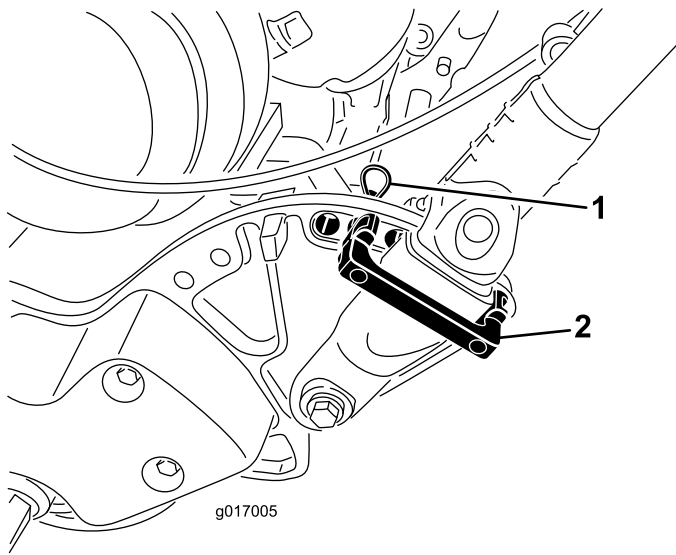

Figure 24
1. Remove the hairpin cotters from the handle retainers on each side of the mower (Figure 24).
2. While supporting the handle, remove the hairpin coppers from each side and pivot the handle to the desired operating position (Figure 24).